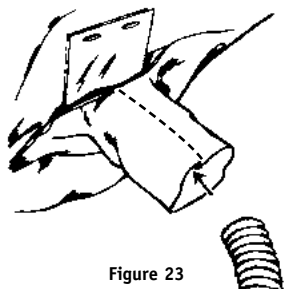

Figure 23
2. Insert the open end of the breathing tube approximately five inches into hood's air entry sleeve (see Figure 23). Do not insert breathing tube into hood air entry sleeve more than 6 inches as it may cause a flow restriction.
1. Remove nylon clamp from the breathing tube (see Figure 23).